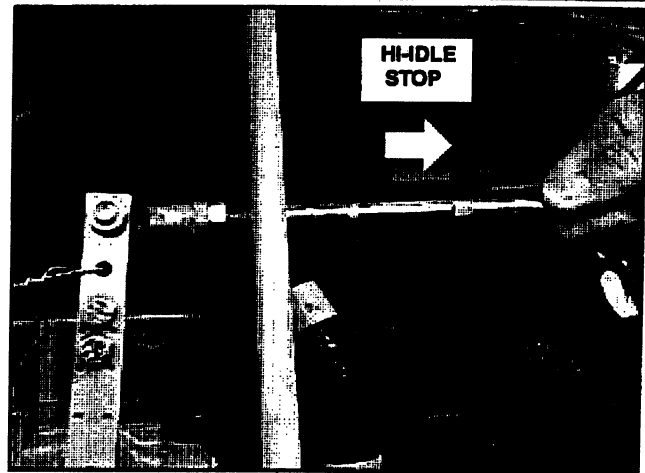

FIGURE 6.21A
22. Manually rotate the stepping motor shaft until the governor lever is completely against the Hi-Idle Stop. Hold in position and depress the Special Adjustment Harness Switch once to lock stepping motor in position (you will feel the stepping motor lock into position). See Figure 6.21A. **At this point, the linkage rod should have some slack in it, provided by the clearance in the stepping motor gears.**